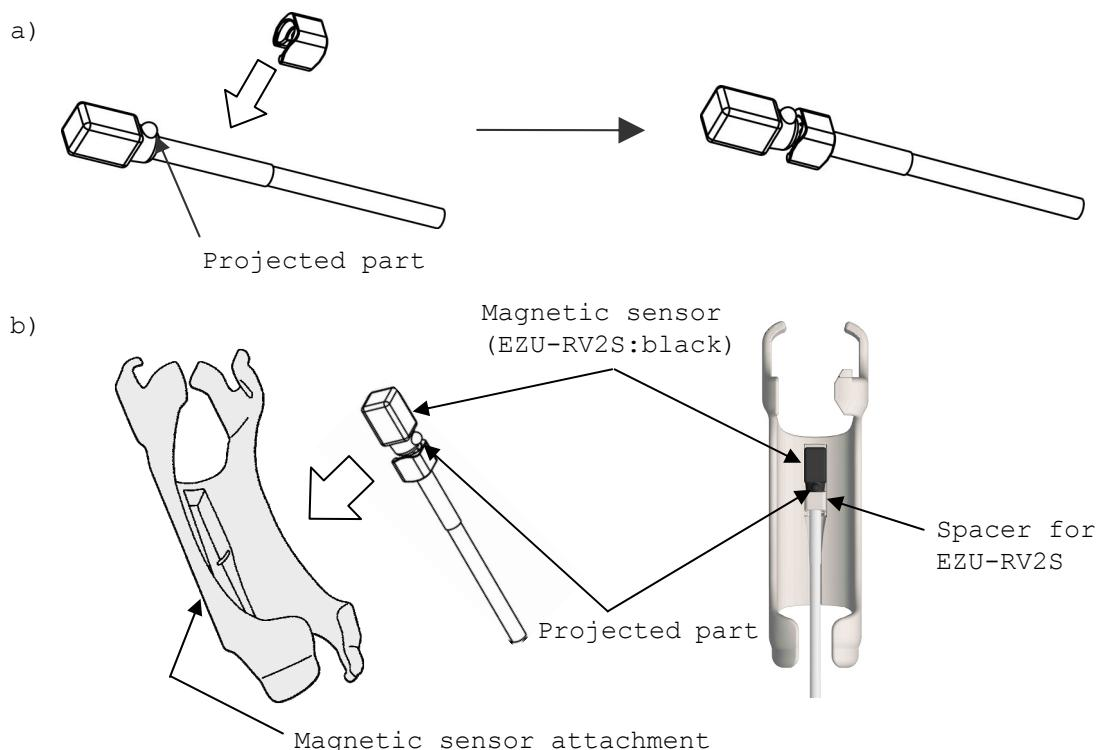

Fig.8 How to attach the Magnetic sensor
- b) Insert the Magnetic sensor(EZU-RV2S) into the Magnetic sensor attachment with the correct direction as shown in Fig.8.